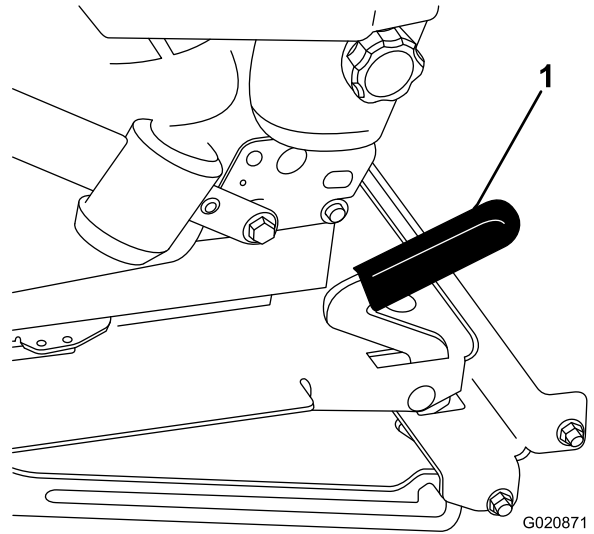

Figure 48
- Pull the seat latch forward and lift up to unlatch the seat (Figure 48).